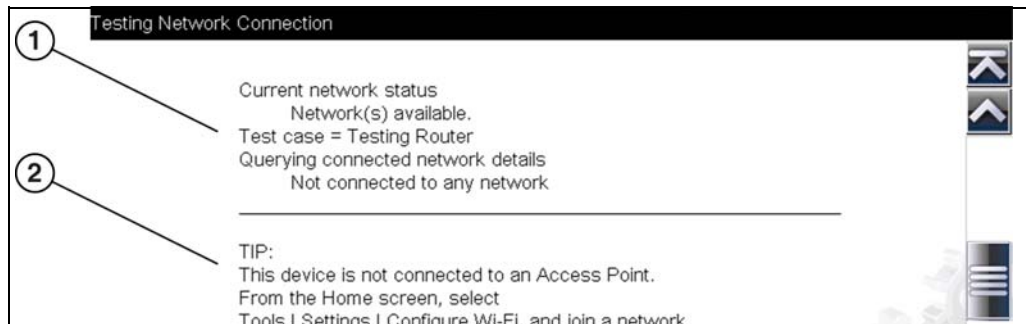

Figure 14-5 View Summary
4. If a connection issue(s) is present, select **View Summary** to review the results. The summary information is helpful if you are experiencing difficulties with your connection (Figure 14-5). Scroll through the summary information to review the test results for each system and Tip messages for the current connection issue. See *Connection Tests - Troubleshooting* chart in Wi-Fi Troubleshooting and Status Messages, on page 196 for additional information.